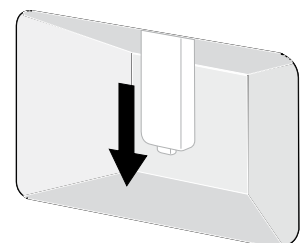

Figure 5 - Pull bulb out.
3. Replace bulb with a new T-4 type 40 Watt halogen appliance bulb (fig. 5). Please note: do not allow your fingers to touch the new bulb when replacing. This will shorten the life of the new bulb. Use a paper towel to cover the new bulb when installing.